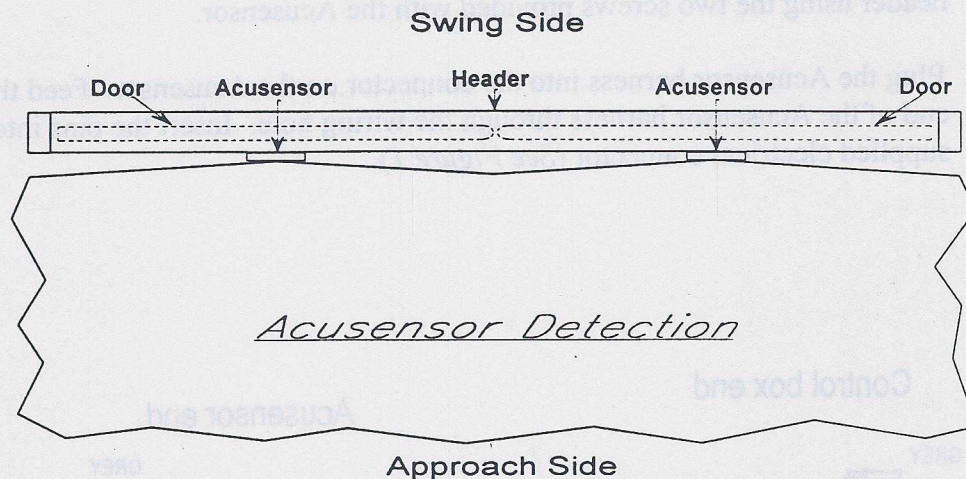

Figure 2
1. On door pairs 42 inches or larger, two Acusensors are required. Using only one Acusensor on units of this size will not cover the activation area (See Figure 2).